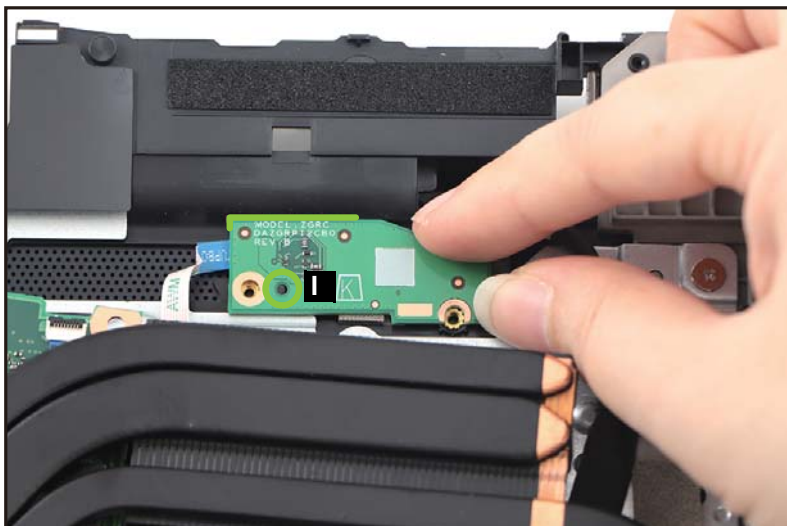

Figure 1-30. Mainboard Removal
- Release the turbo key board from the compartment stud (highlighted with the green line) and guide pin (I) on the top assembly (Figure 1-30). Then remove the turbo key board and the mainboard with the heatsink.